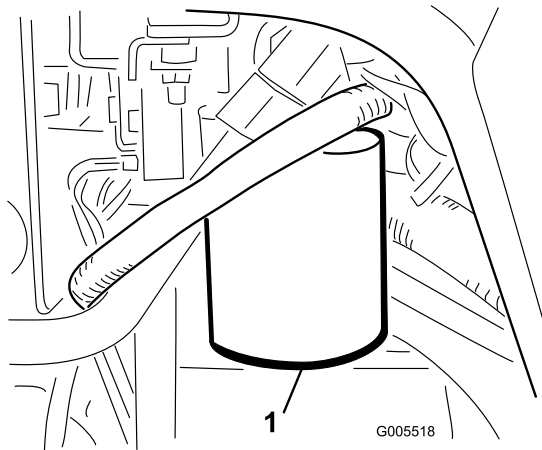

Figure 60
1. Clean the area around the filter mounting area (Figure 60). Place a drain pan under the filter and remove the filter.